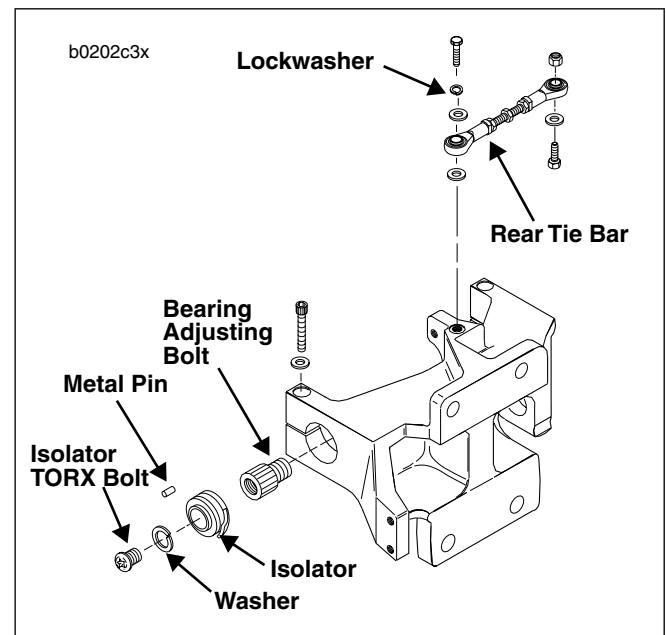

Figure 6-8. Installing Isolators (Typical)
2. See Figure 6-8. Install right rubber isolator.